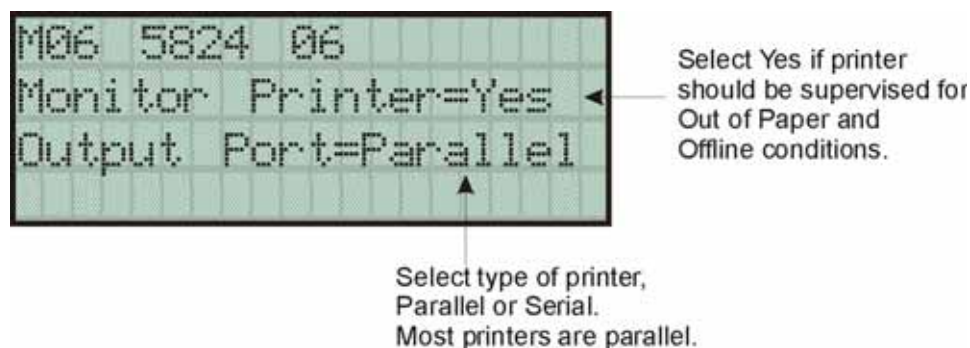

Figure 4-18 Selecting Printer and Output Port Options
5. Press **ENTER** **ENTER** to bypass the next two screens. A screen similar to the one shown in Figure 4-18 will display.